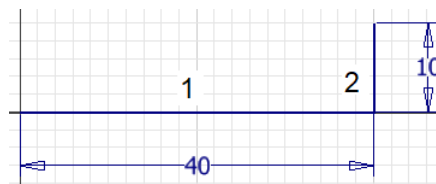

Figure 2-100(b) Dimensioning the sketch
5. Draw lines 3, 4, 5, 6, and 7, as shown in Figure 2-100(c). Make sure the lines are horizontal and vertical.